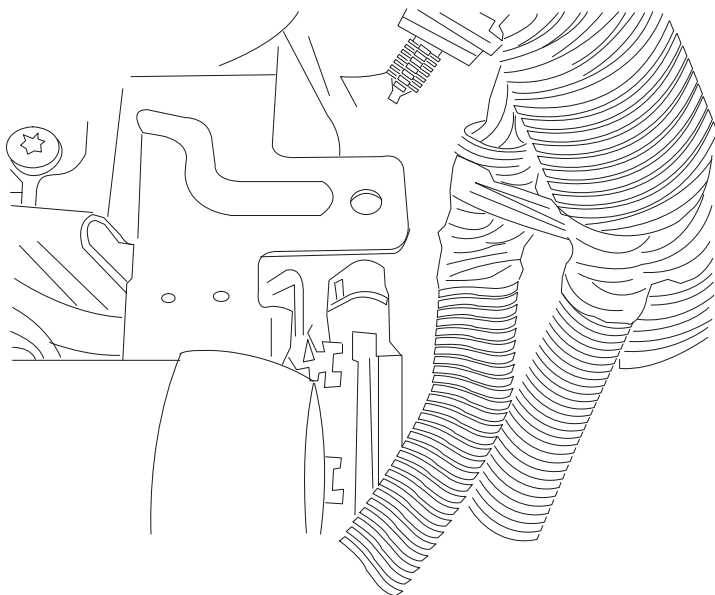

Figure 2.2
- ☐ Remove the wiring harness from the retaining clip on the driver's side of the engine and move it out of the way (Figure 2.2).